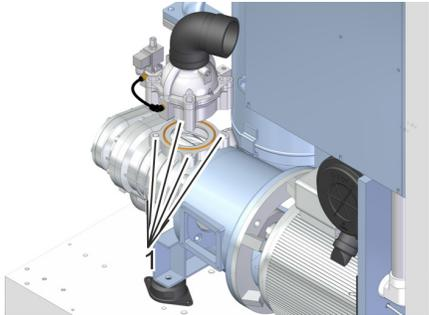

Fig. 7: Intake valve fastening screw
1. Unfasten the fastening screws on the intake valve (Fig. 7/1).
4. Re-fit the intake valve and tighten the screws (Fig. 7/1).